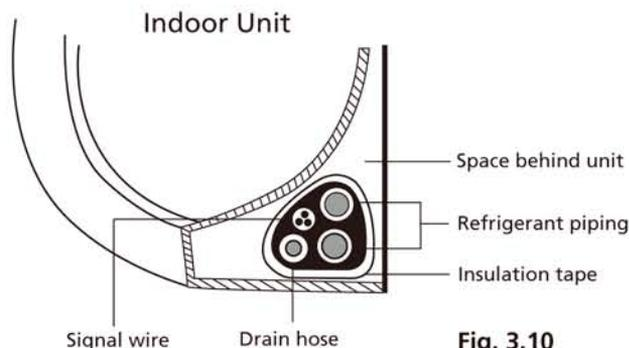

Fig. 3.10
- Bundle the drain hose, refrigerant pipes, and signal cable according to **Fig. 3.10**.
- Using insulation tape, wrap the signal wire, refrigerant pipes, and drain hose tightly together. Double-check that all items are bundled in accordance with **Fig. 3.10**.